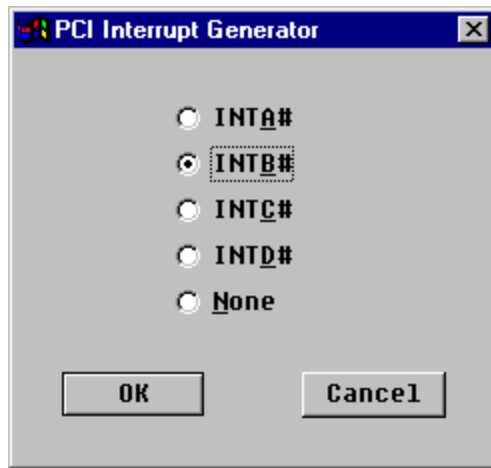

Figure 6.52 Interrupt command
**Interrupts menu:** Select `Interrupts` from the menu bar, and the dialog box in Figure 6.52 appears.